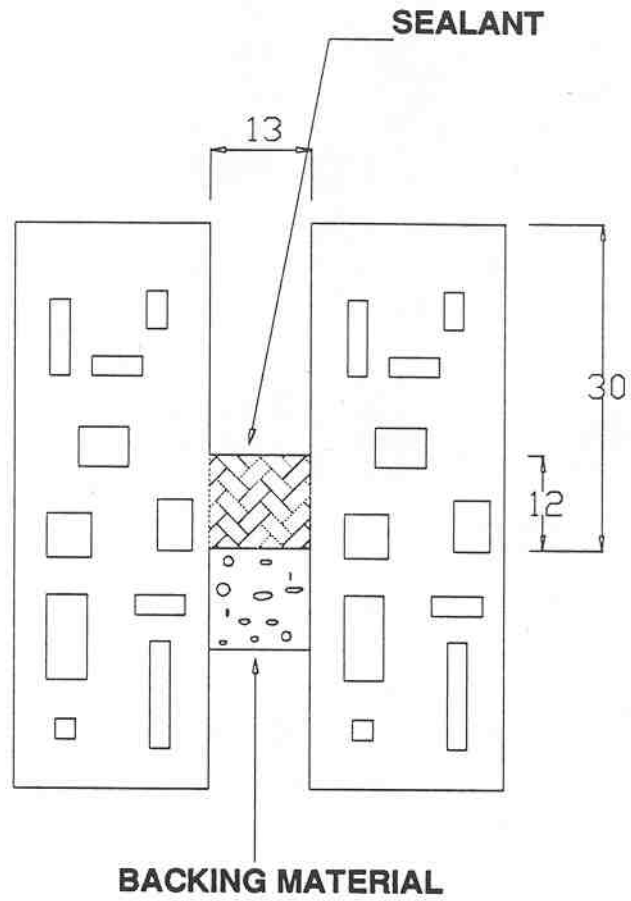

FIGURE 3
- (e) Insert a 15 mm foam backing material into the space between the blocks and push it down to a position 30 mm below the top. Apply the sealant to a depth of approximately 12 mm above the backing material. (See Fig 3)